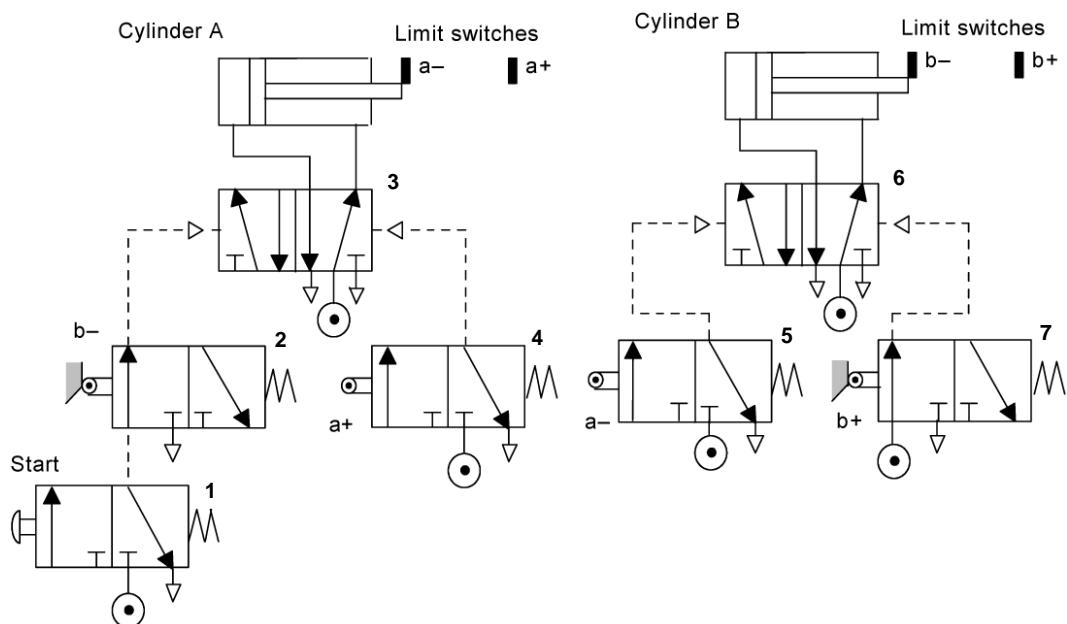

Figure Q1[c]
- [c] For the pneumatic circuit shown in Figure Q1[c], what is the sequence of operations when the start push-button is pressed? Explain the sequence of operations. $a-$, $a+$, $b-$, and $b+$ are limit switches to detect when the cylinders are fully retracted and fully extended.